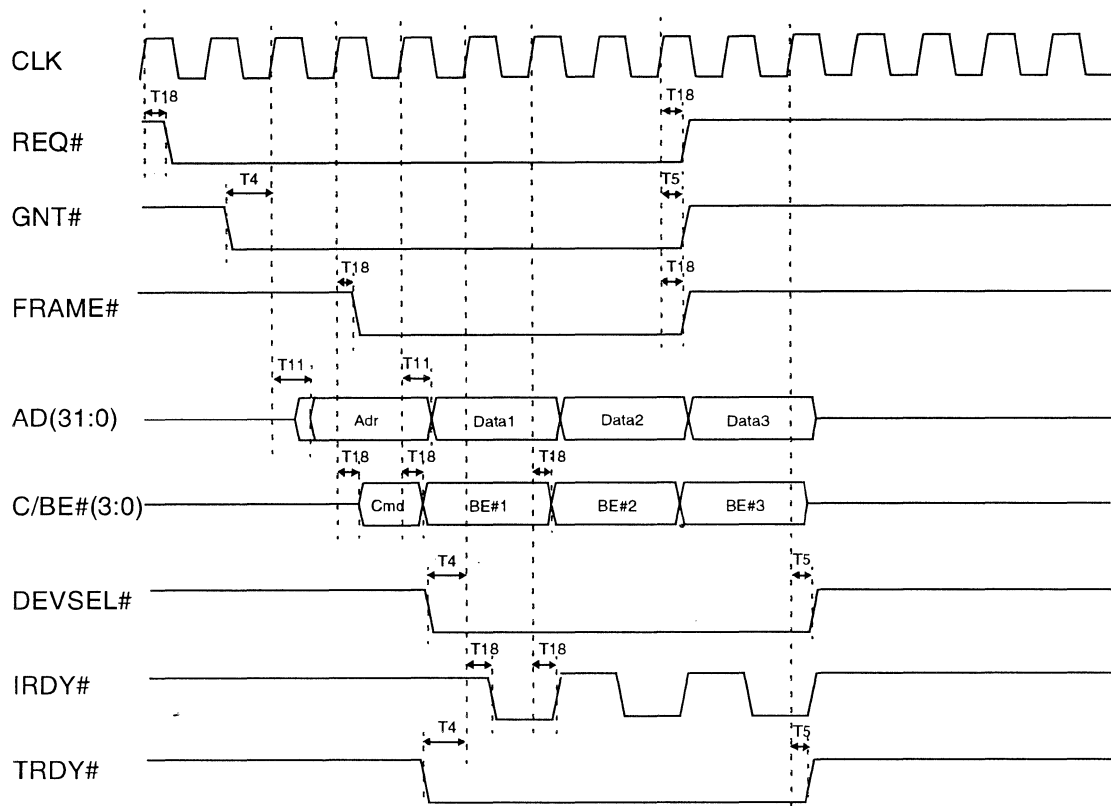

Figure 7-4. PCI Bus Master Operation
- PCI Bus Master Operation, see *Figure 7-4*.